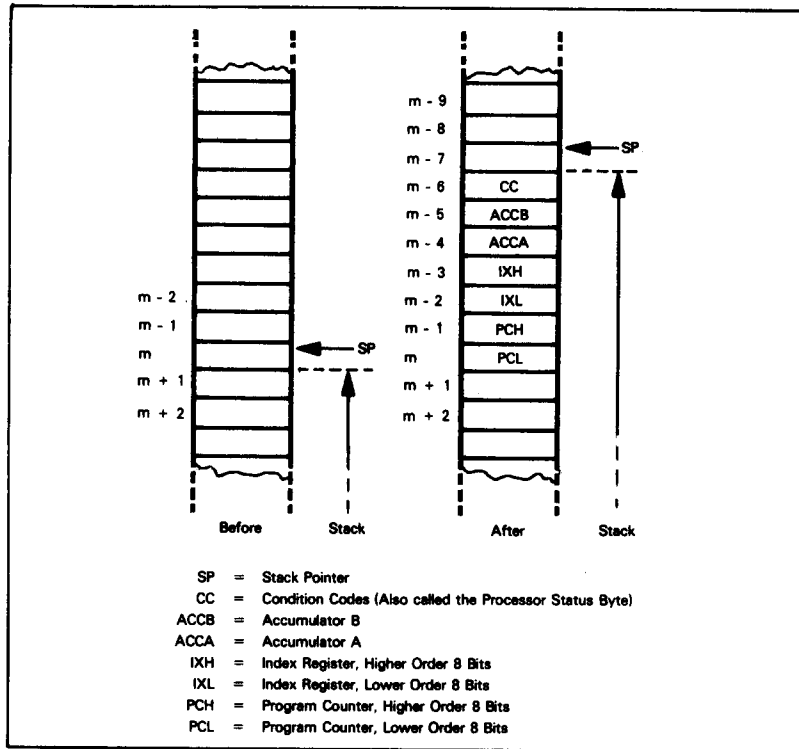

Figure 12-2. Saving the Status of the Microprocessor in the Stack (Courtesy of Motorola)
- 1) The CPU disables the maskable interrupt ( $\overline{\text{IRQ}}$ ); i.e., it sets bit 4 (I) of the Condition Code register.
- 2) The CPU saves the contents of its user registers in the Stack. Figure 12-2 shows the order in which the registers are saved.